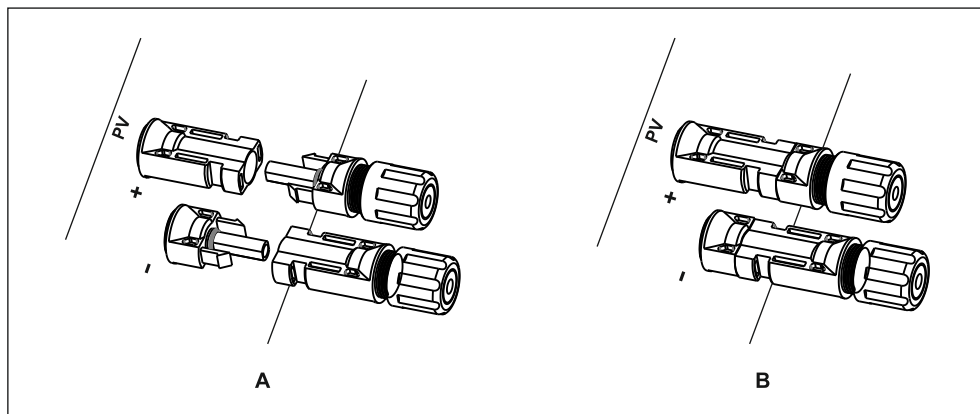

Fig. 13
- 3) Connect PV connectors as shown in fig. 13